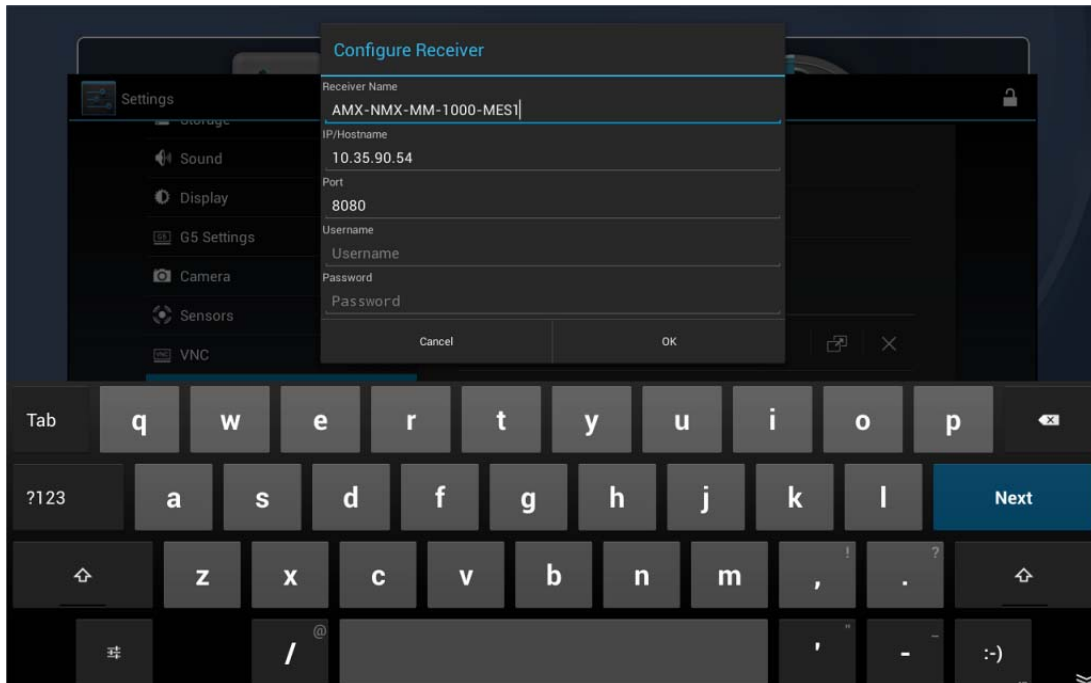

FIG. 38 Configure Receiver window - indicating connection information for the selected Enzo Receiver
- Press to select an Enzo unit to use as the receiver for Content Sharing functions on this panel. This invokes the *Configure Receiver* window, populated with the information for the selected Enzo unit, as well as the on-screen keyboard (FIG. 38):